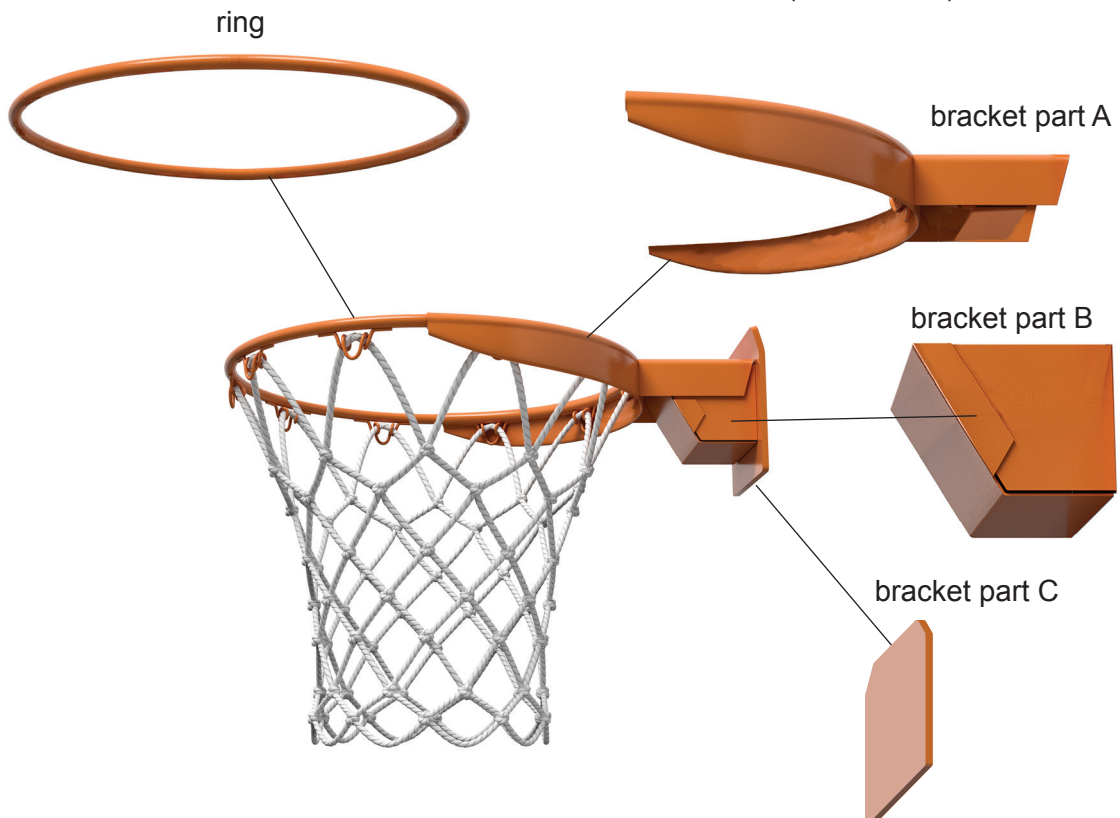

Fig. 4.3
Fig. 4.3 shows the components of the basketball hoop which include:
(d) The ring and bracket components shown in **Fig. 4.3** are manufactured as a batch of 1000 from metal.
- (ii) Use annotated sketches and/or notes to show how the **bracket** shown in **Fig. 4.3**, comprising of part A, part B and part C, could be manufactured and attached to the ring.